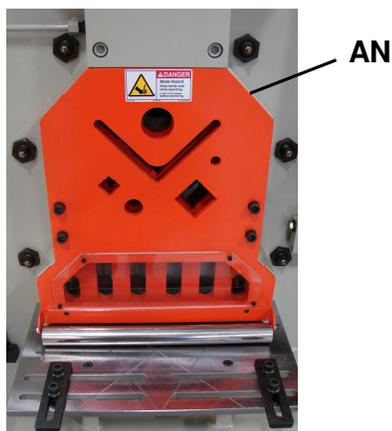
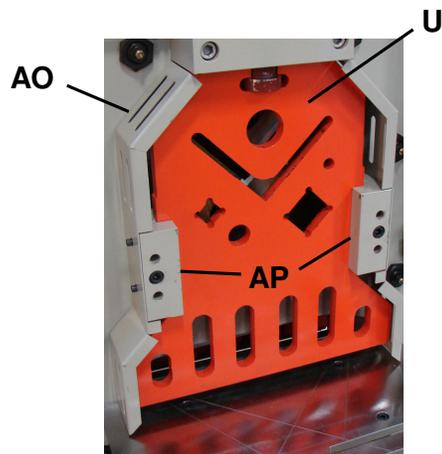

figure 11
figure 12
- 2) Remove the roller plate (**AN**) (fig. 11), side shields (**AO**), guide bars (**AP**), and hold down plate (**U**) (fig. 12)